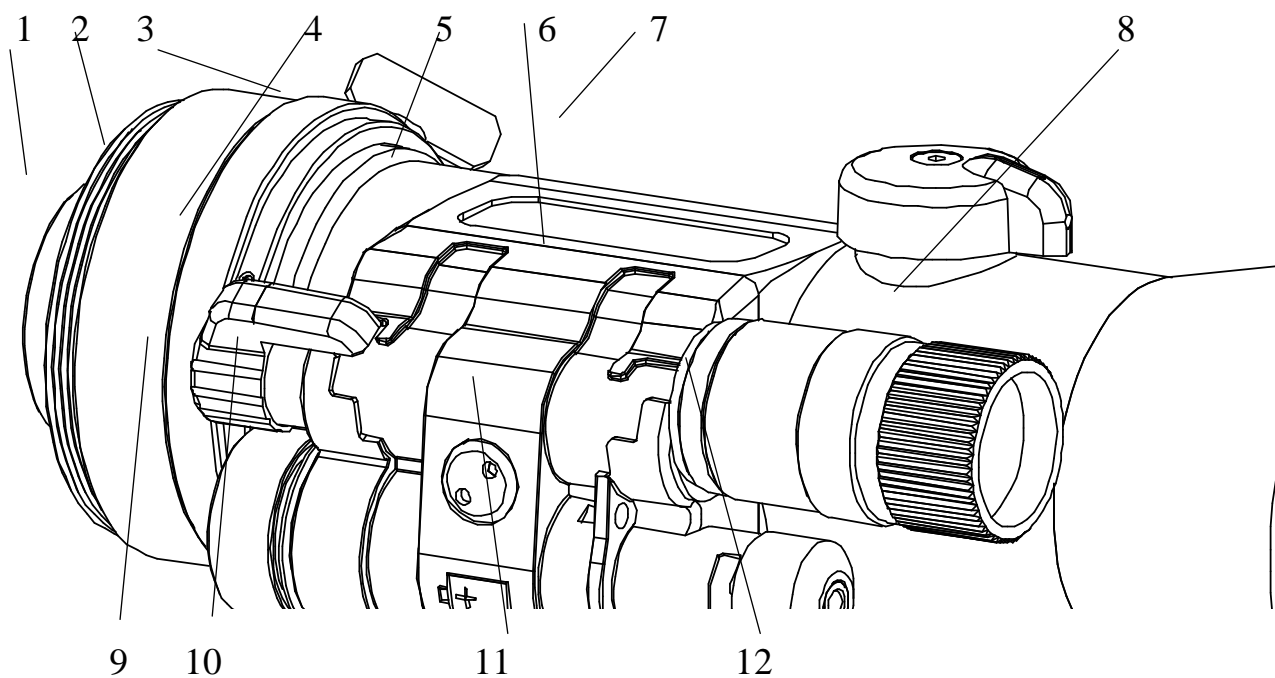

Fig. 1
1. Loose the retention pin (3, see Fig.1) by turning it counterclockwise.
2. Turn the ring (2) counterclockwise (If to take a detached view an eyepiece of a day sight) and screw it into the inner thread of the daytime riflescope until stop.
3. Turn Dedal-54x night sight attachment by the handle of focusing of a lens (7) upwards and lock the attachment in this position by turning the retention pin (3) in the clockwise before fixing.